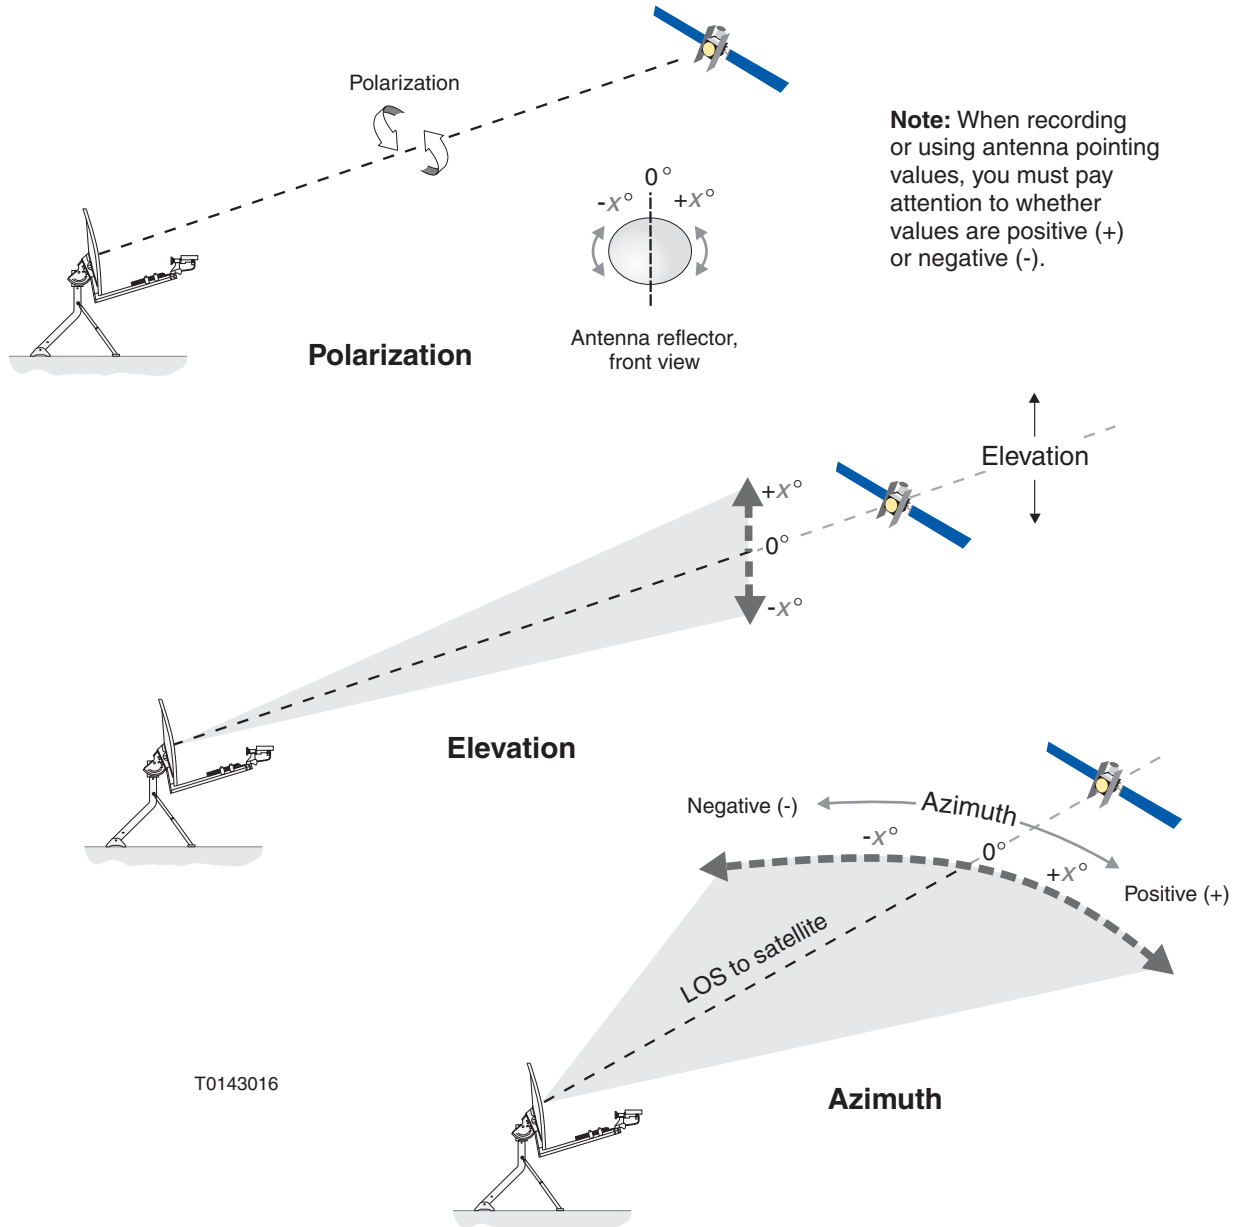
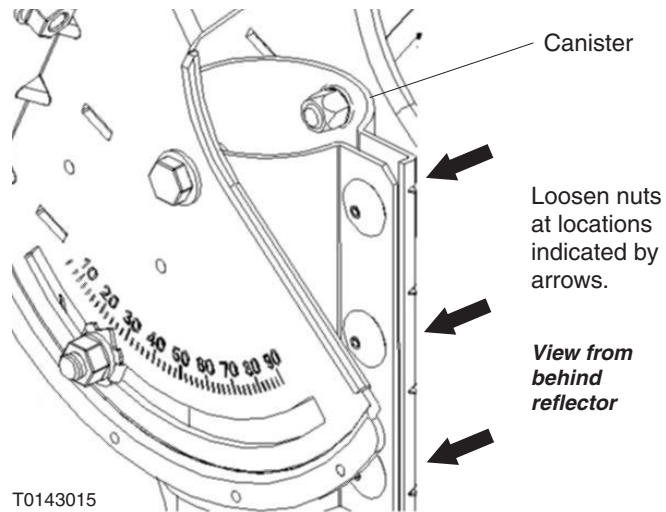
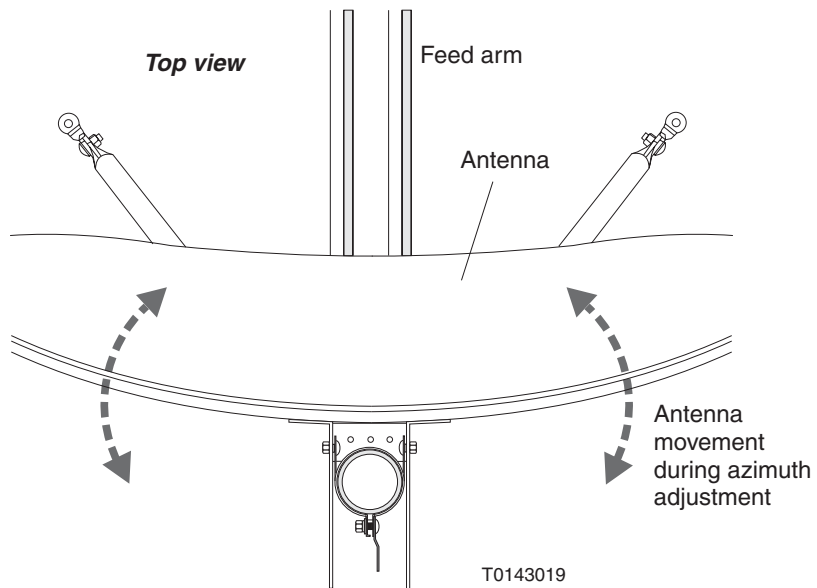

Figure 30: Adjusting azimuth, elevation, and polarization
Figure 37: Loosening the canister nuts
Figure 38: Rotating the antenna to adjust azimuth
These adjustments are illustrated in Figure 30. The corresponding mechanical adjustments on the antenna are explained in the sections that follow.
Figure 37 illustrates how you loosen the canister so you can adjust the antenna for azimuth. Figure 38 shows how you physically move the antenna from side to side.
Figure 37 shows the location of these nuts. Loosen the nuts only enough to allow the antenna assembly to rotate.
3. Stand behind the antenna, grasp the outer edges of the antenna, and rotate the antenna assembly about the mast (as indicated in Figure 38) until the reflector is pointed toward the azimuth heading. Set the azimuth as accurately as possible.
Figure 30 on page 36 and Figure 37 illustrate how you adjust the antenna azimuth. To adjust the azimuth, follow these steps:
1. Loosen the three nuts on the canister, as shown in Figure 37. Loosen the nuts only enough to allow the reflector to rotate.